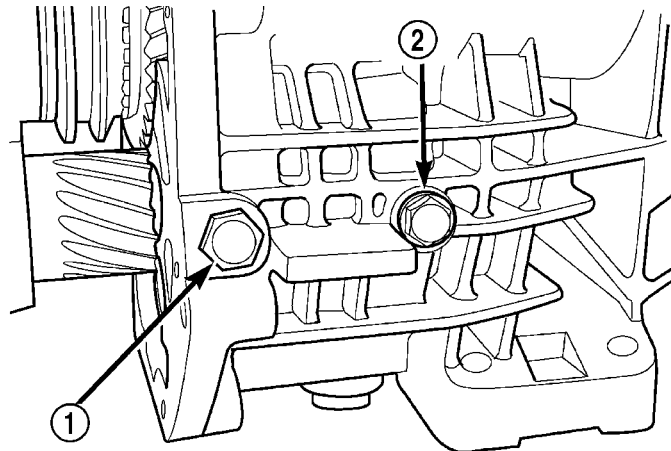

Fig. 24 REVERSE IDLER SHAFT/SUPPORT BOLT
(10) Remove the reverse idler shaft support bolt and loosen rear reverse idler shaft bolt (Fig. 24).